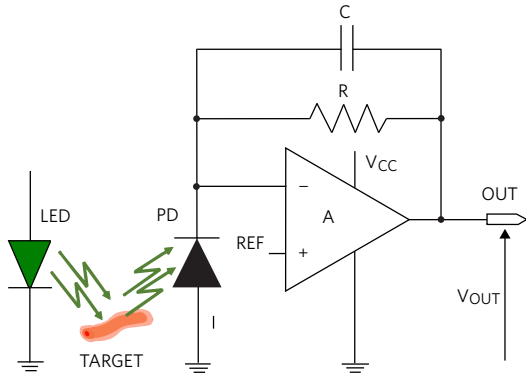

Figure 3. The transimpedance amplifier
The current signal produced by the photo diode in response to light from the green LED is typically processed by the heart rate monitor's analog front end (AFE) circuit. At the core of the AFE is a low power operational amplifier. The op amp transimpedance configuration (Figure 3) amplifies the photodiode (PD) current I by a factor R , yielding an output voltage $V_{OUT} = I \times R$. The capacitor C implements a low pass filter of time constant RC that lets the low frequency heart rate signal pass but filters out any higher frequency noise.